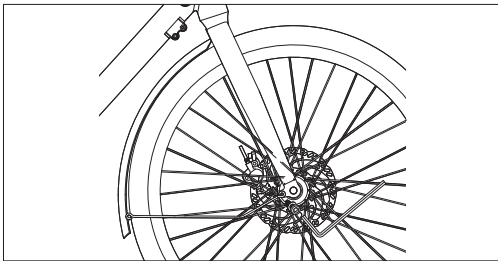

Figure 5-2
- After fastening the upper bracket, use a 4 mm Allen key to remove the 2 screws at the bottom of the front fork. Then, align the legs of the front fender with the installation holes at the bottom of the front fork, as shown in **Figures 5-2 and 5-3**, and then re-tighten the screws to about 3-5 N-m.